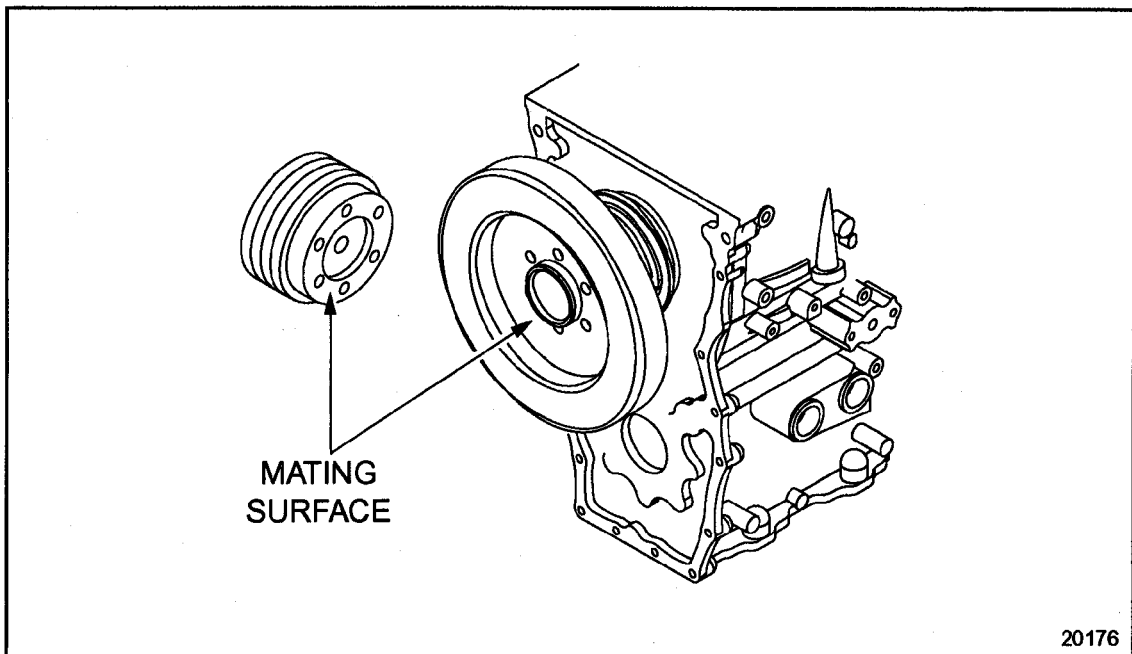

Figure 1-216 Crankshaft Pulley and Vibration Damper Inspection
4. Inspect the direct-mounted pulley (or spindle) and vibration damper inner contact surfaces. See Figure 1-216.
- [a] Check for galling or burrs. See Figure 1-216.